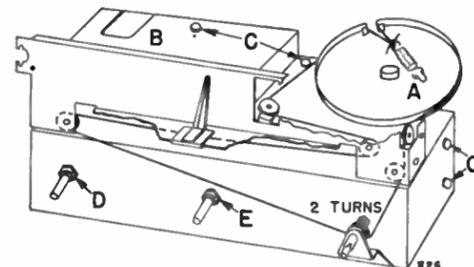

Figure 34. Radio Chassis With Front Housing Removed.
- Position the dial drum as shown in Figure 34. Unhook spring at "A", and while keeping tension on the dial cord, hook it to tab "B".